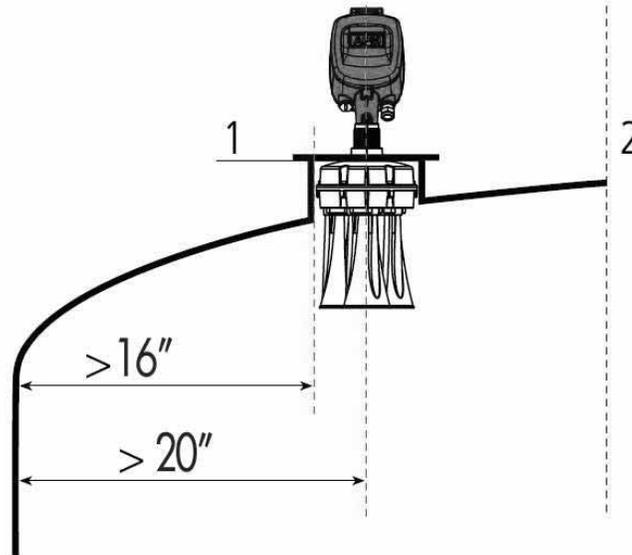

Figure 20 Closed Vessel Installation
- ⦿ The installation point in the vessel must be at least 0.5m (1.64ft.) from the center of the scanner to the side of the vessel, as shown in Figure 20.